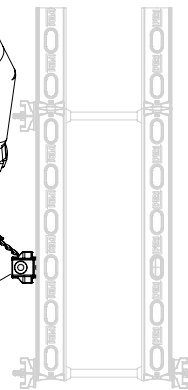

Fig. A3.12b
1. Drill hole for anchor bolt in sufficiently load-bearing ground. (Fig. A3.12b)